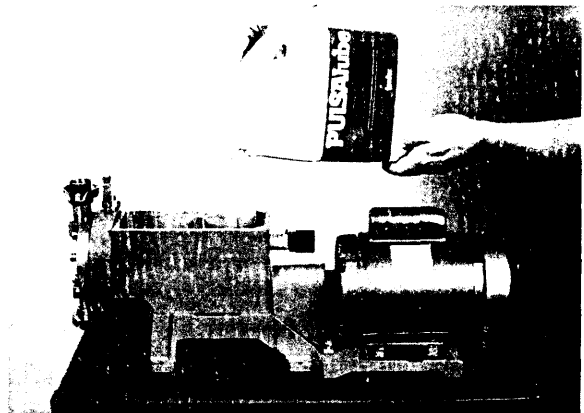

Figure 6
9. Refill both reservoirs with fresh PULSAube oil. The level should be ½" to ¾" from the top of each reservoir. (Reference Fig. 6)